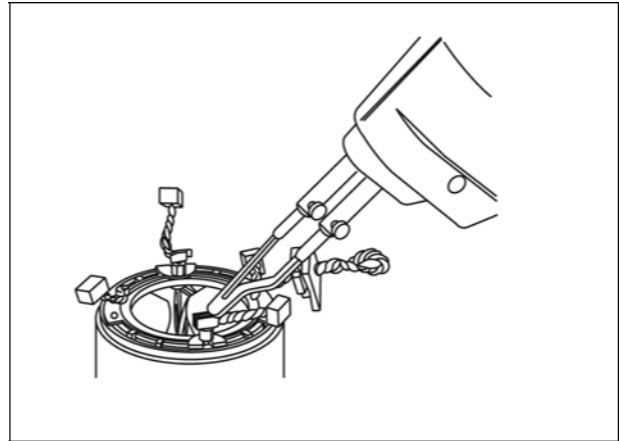

Figure 69
2. Assemble starter housing to drive housing, aligning notch in housing with tab on drive lever support (Figure 69).